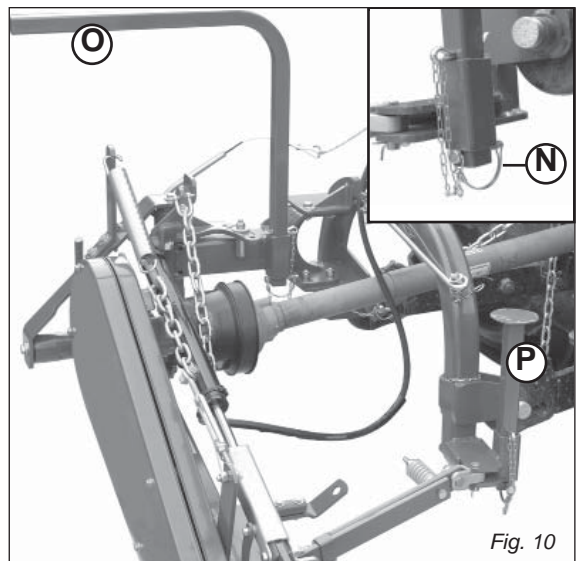

Fig. 10
- Remove spring locking pin (N, Fig. 10) from parking stand.
- Remove support (O and P, Fig. 10) and remount them, upside-down in their seat .
- Fasten with spring locking pin (N, Fig. 10).